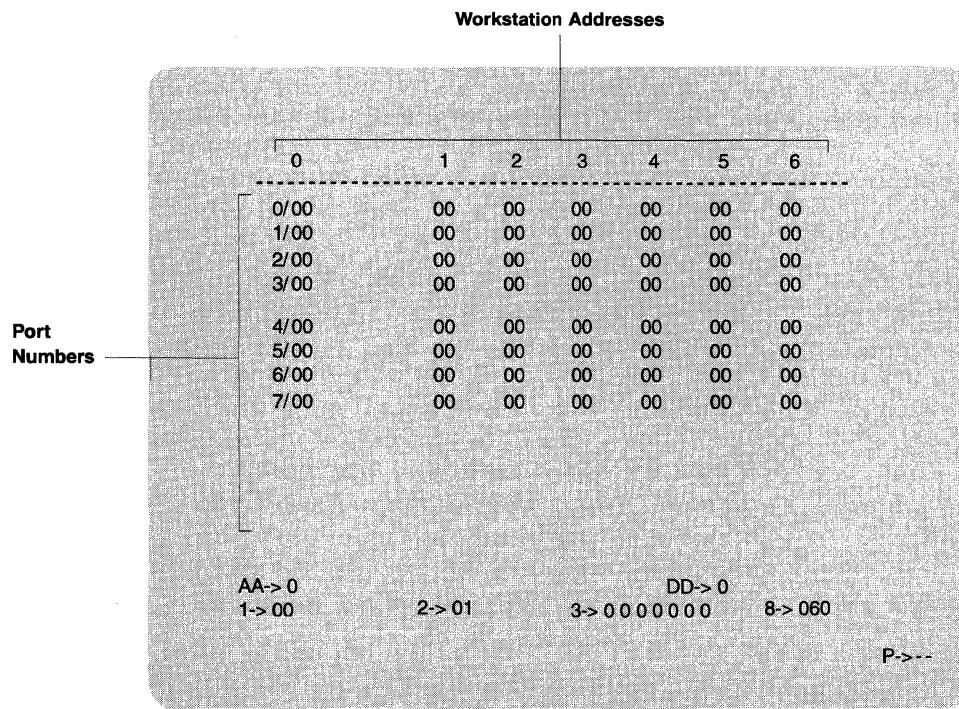

Figure 5-1. Configuration Screen for Initial SDLC Configuration
- 5** Does the configuration screen appear? (A sample configuration screen is shown in Figure 5-1 on page 5-13. Your screen may not look exactly like this one.)
The configuration screen for SDLC is shown in Figure 5-1. X.25, X.21 switched, X.21 leased, Token-Ring, and Ethernet communication modes use the same procedures, but have different entry fields and values.